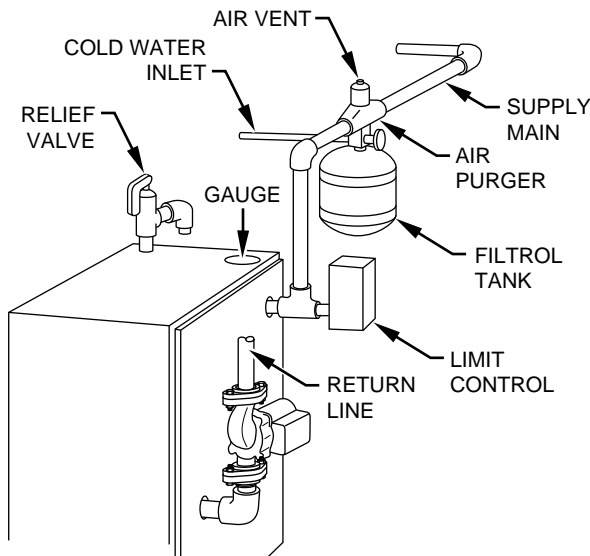

Fig. 2—Forced Hot Water Typical Piping
4. Connect supply and return lines to boiler. The connections may require certain additional fittings and parts. (See Fig. 2 and 4.)